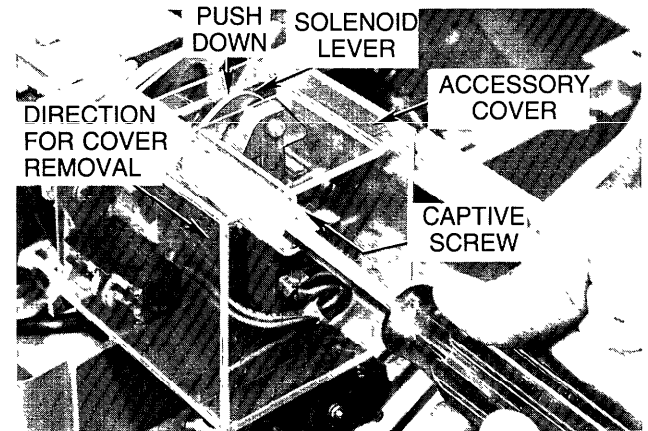

Figure 6.
2. Unscrew captive accessory cover screw Figure 6. While holding down the solenoid lever, pull the cover off in the direction shown Figure 6. Solenoid lever must be depressed to clear slot in cover.